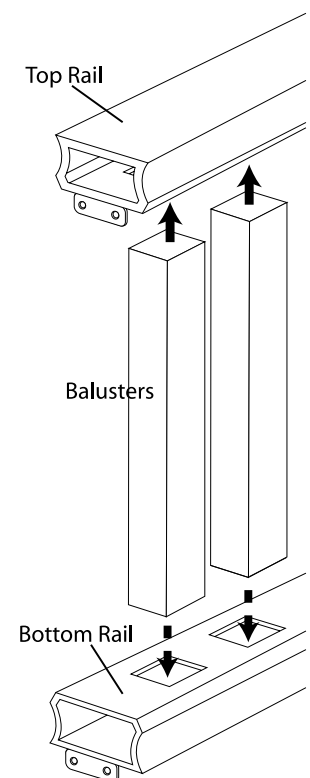

Figure 4
11. Place the bottom rail on the crush block between the posts. The baluster holes should be facing upward (Fig. 4). Level the bottom rail and center the rail ends on each post.
15. Position the top rail onto balusters and between the posts. The pre-routed holes in the top rail should be facing downward (Fig. 4).